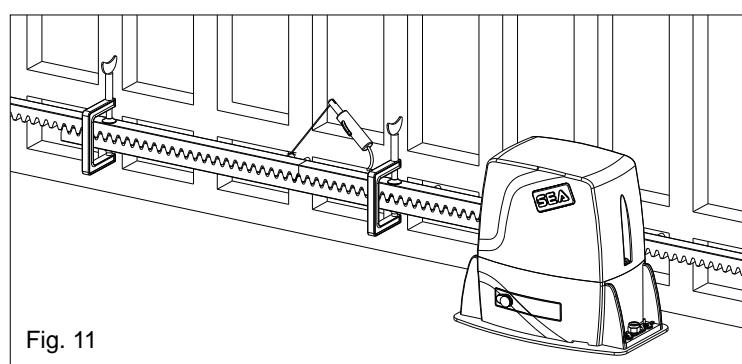

Fig. 11
6.4. Make sure that all the gear rack elements are perfectly aligned and placed correctly (teeth in phase). It's suggested to place two aligned elements in front of a third one as shown in Fig.11;